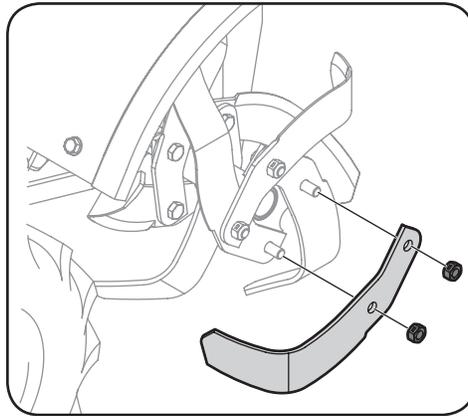

Figure 5-5
1. Remove the two nuts that attach a single tine to the screws on the tine assembly. If needed, use penetrating oil to help free the nuts. See Figure 5-5.